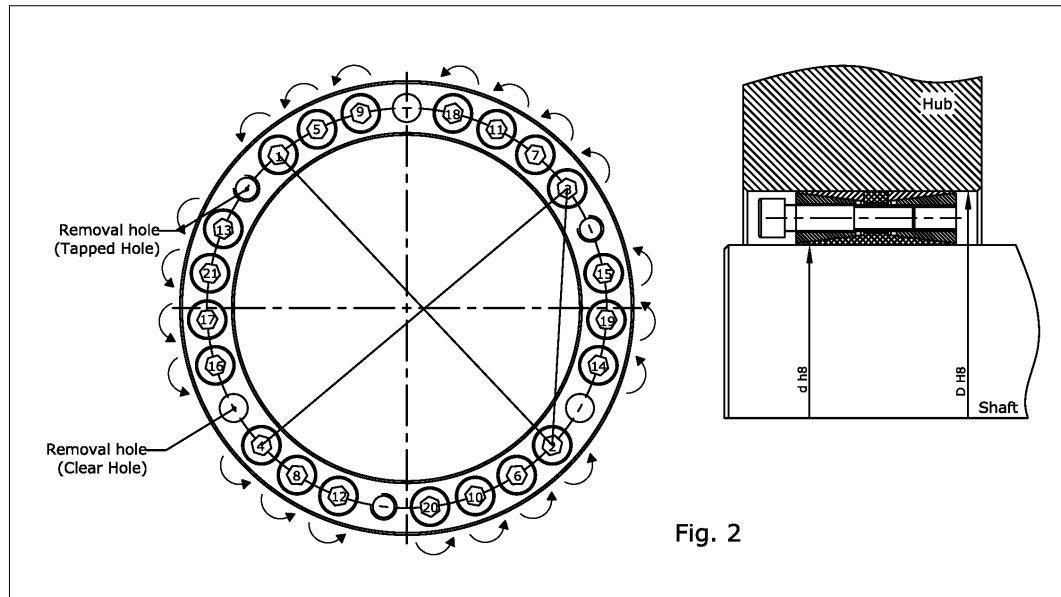

Fig. 2
- Loosen the clamping screws uniformly one by one with the help of torque wrench in diametrically opposed sequence in multiple steps by 1/4 revolution (As shown in Fig. 2) for each step to Prevent misalignment of the clamping surfaces and breaking of screws. Don't loose single screw at a time, otherwise it may lead to tilt inner ring and outer ring and damage of locking assembly occurs.